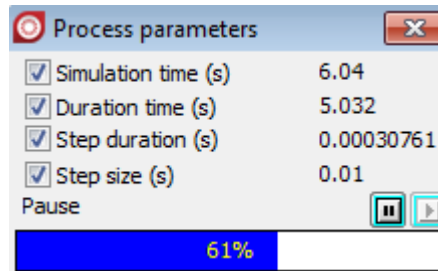

Figure 1.17. Integration process parameters
**Process parameters** window will appear at the lower right corner of the screen, see in Figure 1.17.